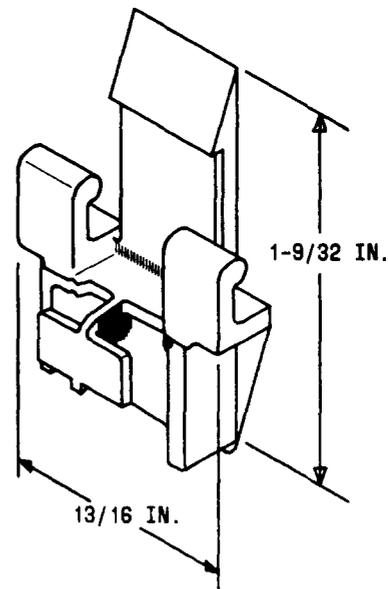

Fig. 1 — B Siding Clip
2.17 Be sure protrusion of fasteners will not cause damage or injury. Fasteners for siding can be of the following variety: tapping screw, B or C plastic anchor, toggle bolts, B wall screw anchors, or B siding clip (Fig. 1). ♦If the fasteners are to penetrate the under siding for strength, use the appropriate fastener required by the underlay.♦